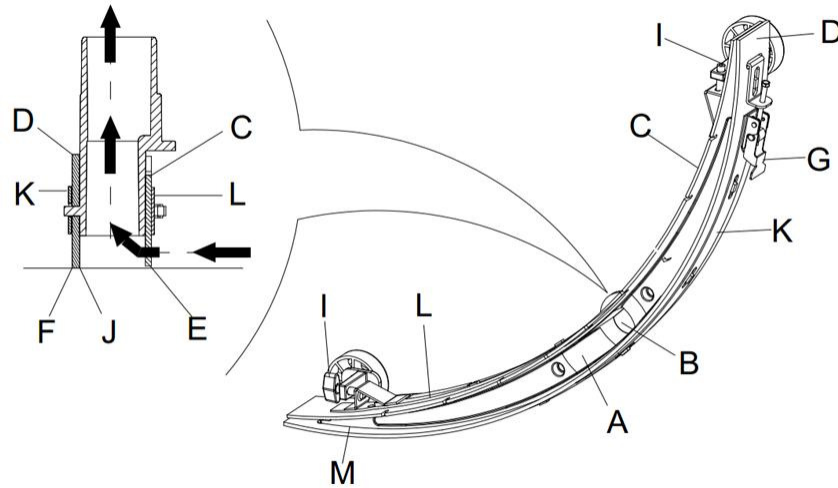

Figure 15
2. Press the power switch (41) to the “O” position to turn off the machine.
3. Unscrew the fixed handle (16) of the squeegee; take off the connector connecting the Recovery Vacuum tube of the squeegee, and take off the squeegee.
4. Use the squeegee lifting handle (14) to lift the squeegee support frame.
5. Clean the squeegee (**Figure 15**). Clean in particular the groove (**A, Figure 15**) and the dirt and fragments on the Vacuum tube. Check if the front squeegee blade (**C**) and the rear squeegee blade (**D**) are intact, and if there are broken edges and cracks. Change them if necessary (refer to the steps in the following section).
1. Following the methods related in the previous section clean the squeegee (**Figure 15**)
2. Check the edge (**E, Figure 15**) of the front squeegee blade and the edge (**F**) of the rear squeegee blade (**D**). On the whole length, they should be on the same level. Otherwise, adjust their heights through the following procedure.